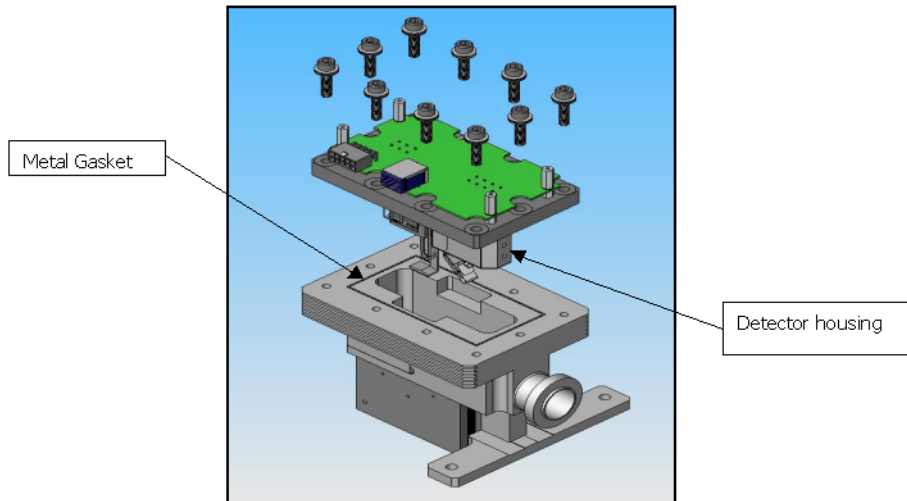

Figure 9: Spectrometer Alignment
22. Guide the spectrometer header into pocket with the detector housing closest to the inlet (Figure 9: Spectrometer Alignment).